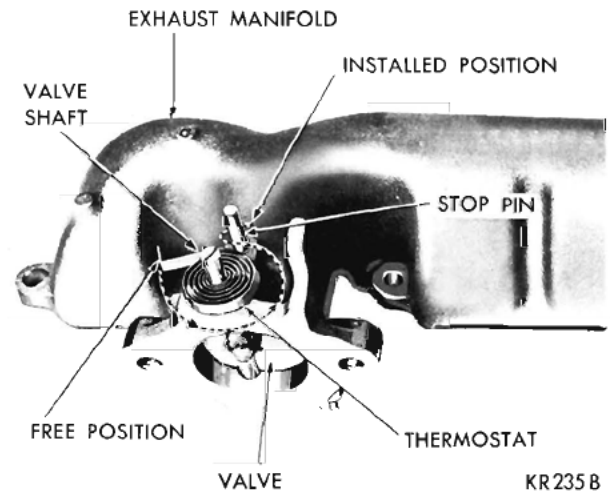

Fig. 27—Positioning the Thermostat
(1) Position the shaft in extreme counterclockwise position.
(2) Place a new thermostat in the shaft slot with the outer end of the thermostat facing downward on the left side. Wrap the outer end of the thermostat counterclockwise and engage it under the stop pin (Fig. 27).